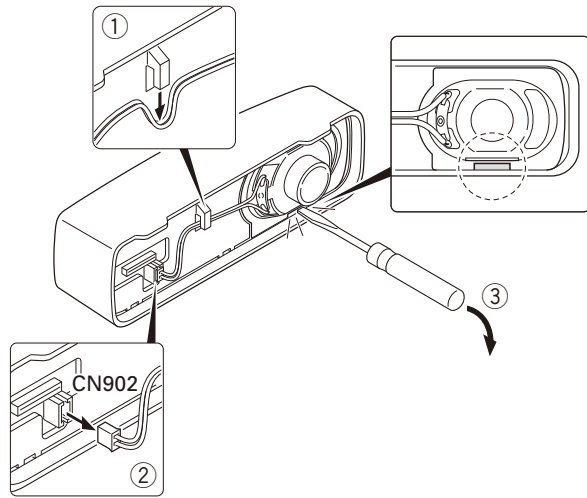

Fig. 2-1 / 图 2-1
1. Remove the speaker lead from the holder hook. (①)
2. Remove the speaker connector from the display unit connector (CN902). (②)
3. When removing the speaker hardware fixture, insert a flat-head screwdriver at the position shown in Figure 2-1 and tilt it in the direction shown by the arrow. (③)
4. To remove the holder, insert a flat-head screwdriver into tab of the holder and tilt it in the direction shown by the arrow. (④)
1. 从扬声器座挂钩取下扬声器导线。(①)
2. 从显示单元连接器 (CN902) 取下扬声器连接器。(②)
3. 取下扬声器硬件夹具时，请在图 2-1 所示位置插入平头螺丝刀并按箭头方向将其翘起。(③)
4. 如需取下扬声器座，请将平头螺丝刀插入扬声器座的凸起并按箭头方向将其翘起。(④)